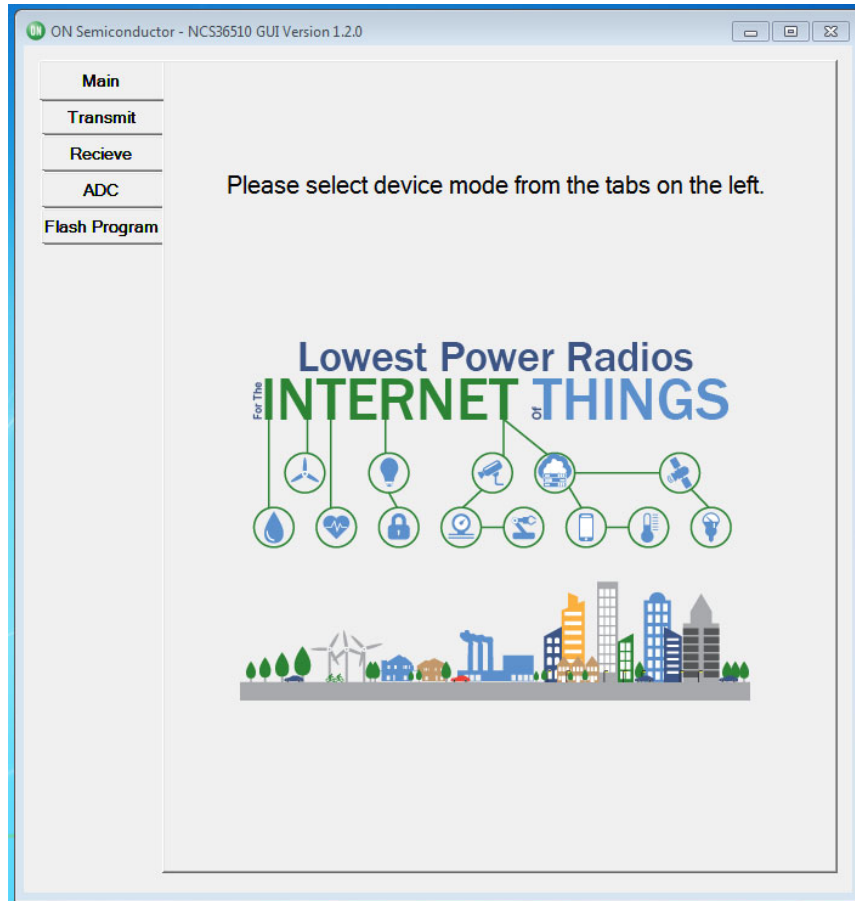
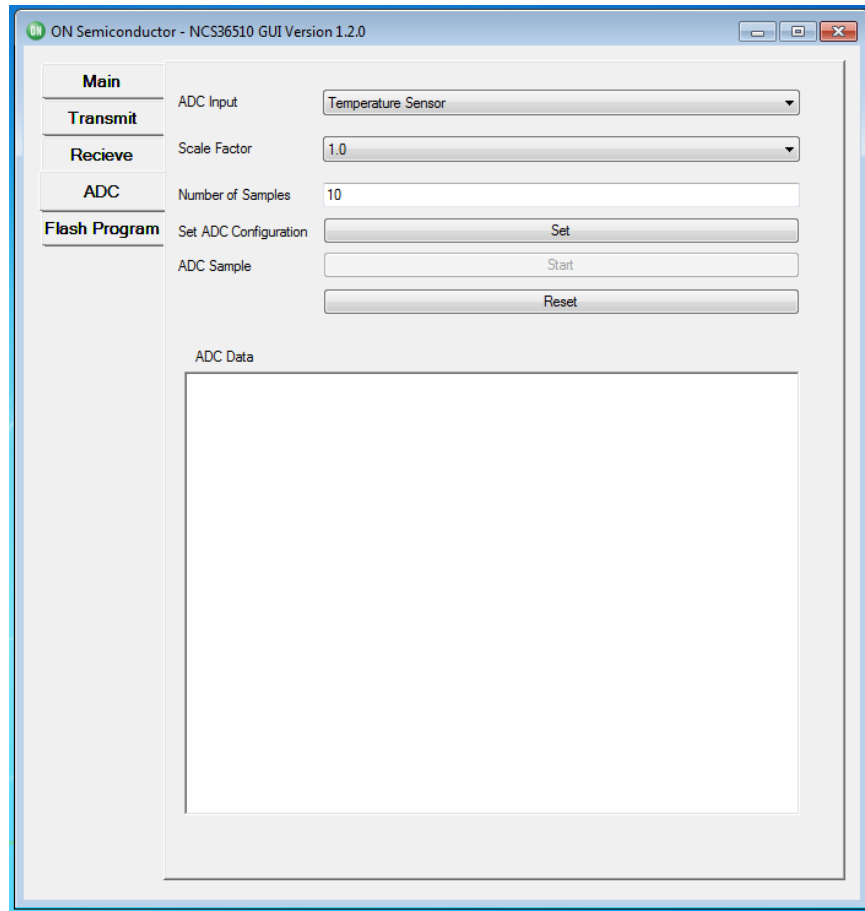
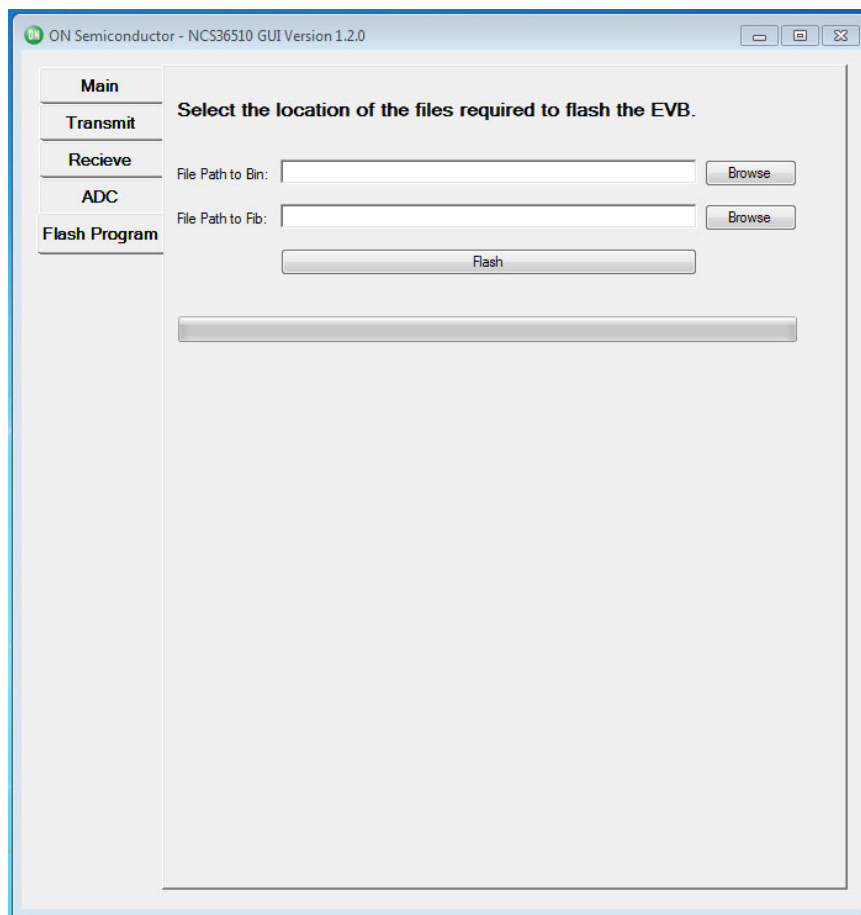

Figure 2. GUI Main Page
Figure 14. GUI-ADC-Interface
Figure 16. GUI–FLASH Program–Interface
3. Select the “ADC” tab as shown in Figure 2, the “ADC” page will look as shown in Figure 14.
3. Select the “FLASH Program” tab as shown in Figure 2, the “FLASH Program” page will look as shown in Figure 16.